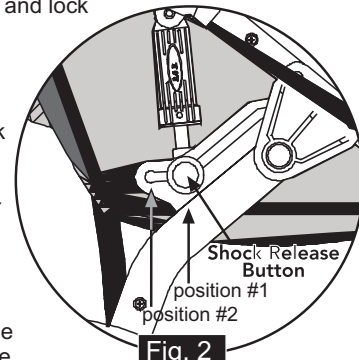

Fig. 2
- 2 SWINGARM:** Rotate the swingarm away from the front of the stroller until the shocks engage in the first position (Fig. 2). The shocks' locking pins will "snap" and lock into position 1.